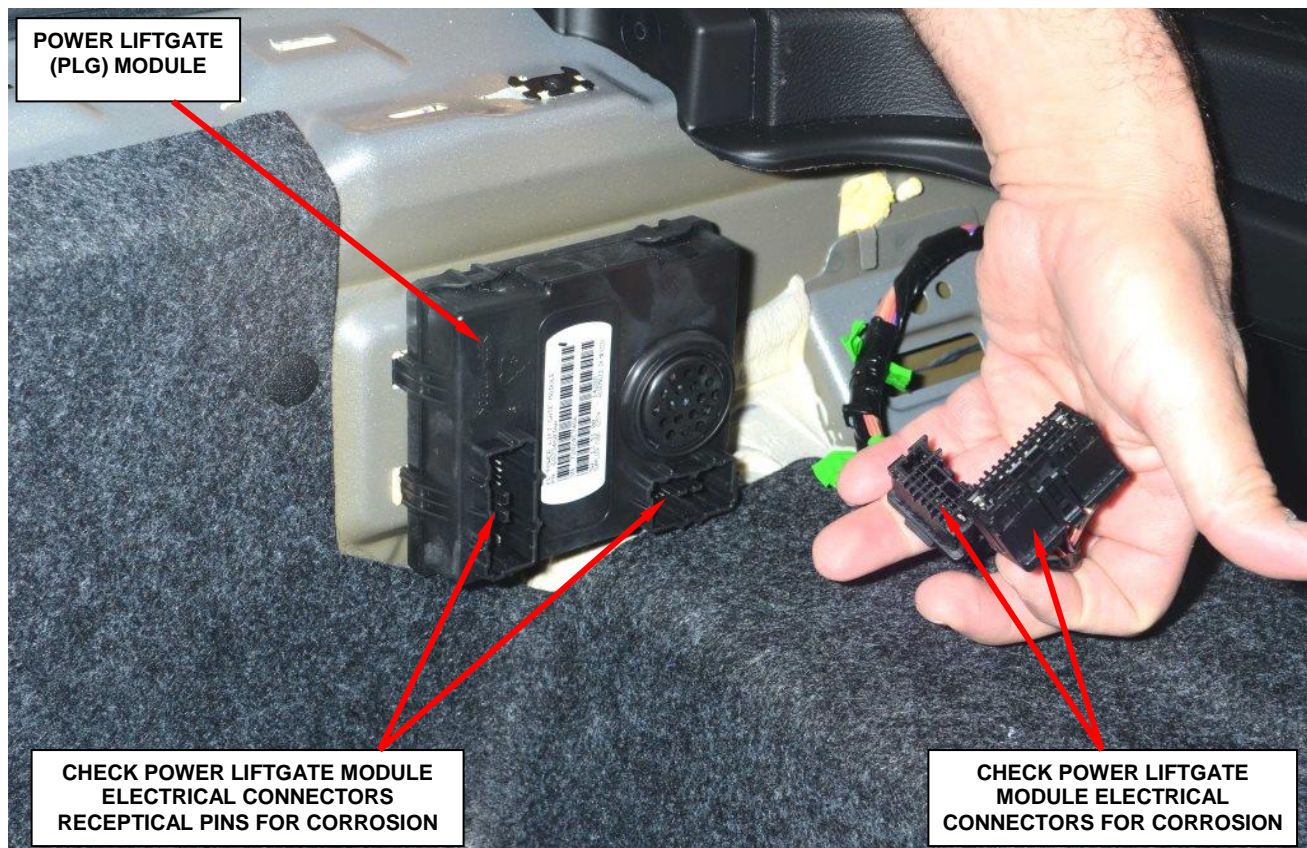

Figure 5 – Inspect Power Liftgate (PLG) Module Electrical Connectors for Corrosion
11. Disconnect both PLG module electrical connectors (Figure 5).
12. Inspect the PLG module electrical connectors for corrosion (Figure 5):